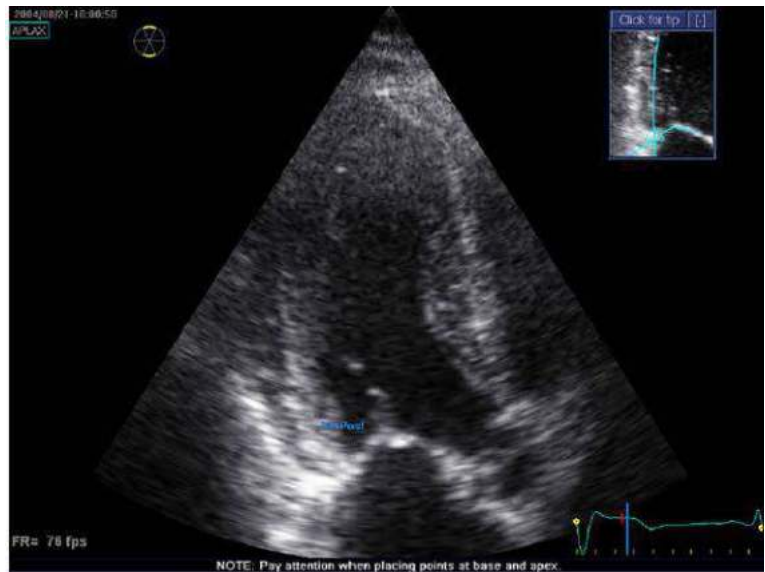

Figure 13-107. Defining a ROI
3. To define a ROI, place three points at the endocardial border; two annular points and one at the apex (see Figure 13-107). Follow the indications displayed next to the pointer and on the Status bar when placing the three points.